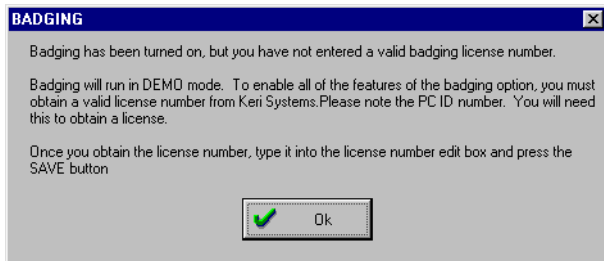

Figure 17: Badging Demonstration Acknowledgment
8. If you choose to enable badging at this time, click . A Badging Demonstration Acknowledgement window appears (see Figure 17). Click the  button. The badging features are all enabled except for the ability to print cards.
12. If you have entered an incorrect License Code, the Badging Demonstration Acknowledgement window appears (see Figure 17 on page 16). Click the  button.